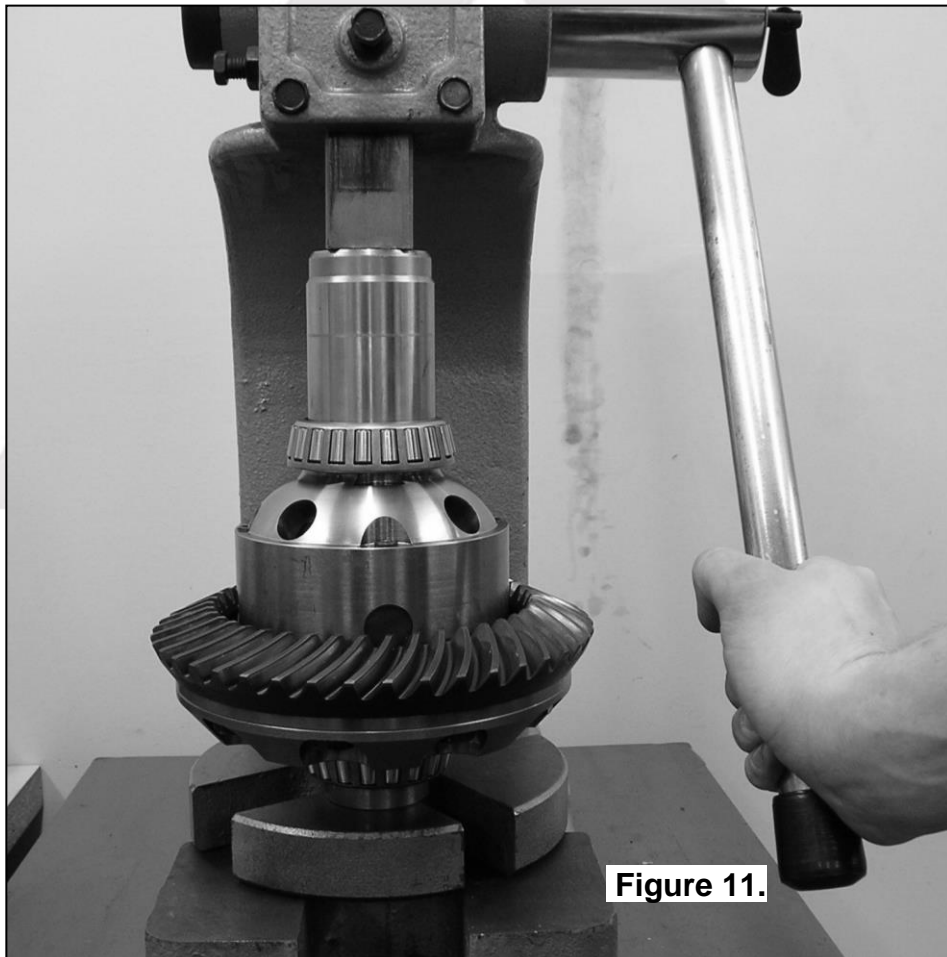

Figure 11.
- Using a bearing press or arbor press, press the case side bearing cone (supplied with the *Air Locker* kit) onto the case side journal of the *Air Locker* (refer to Figure 11.) until the bearing seats firmly against the bearing journal shoulder.